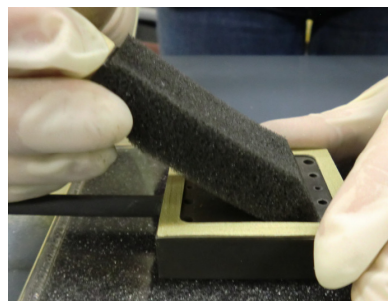

Figure 9
2. Apply approximately 0.5 grams of the provided nickel ink on the surface of the anode manifold (Figure 9). Do not apply ink to the gas flow ports.